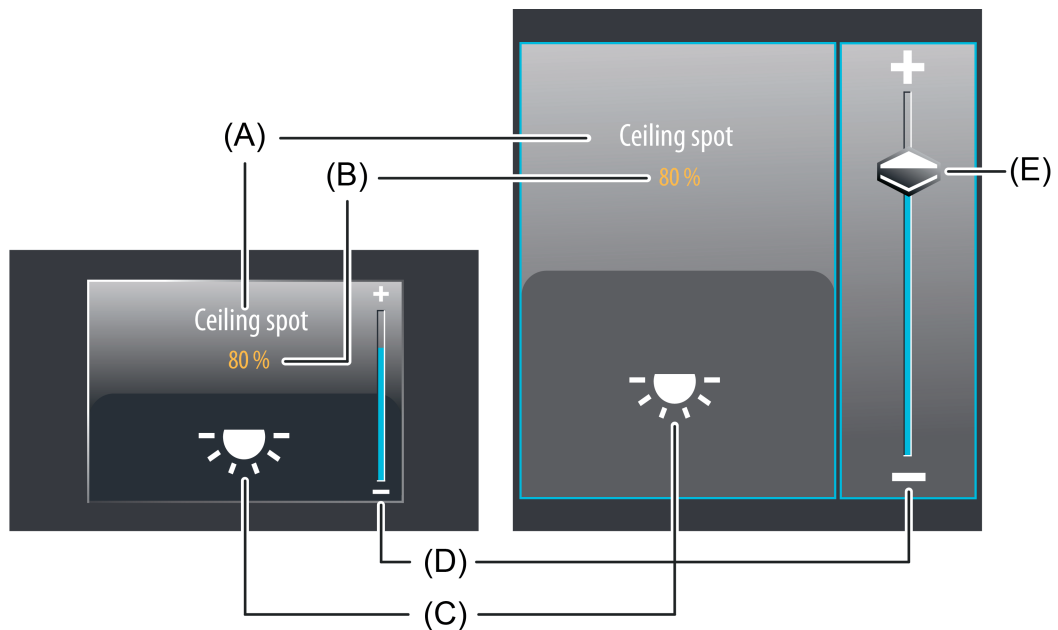

Figure 25: Example of an operating and display element of the function "Dimming brightness value"
In the selection operation, a slider (E) is available in addition to the sensor surfaces + or - for operating switching or continuous dimming processes (figure 25). It is possible to specify brightness values directly with graphic support using the slider. For this purpose, the slider can be set by finger pressure or continuously moved. To set the slider, you must touch the slider area at the required brightness level with your finger. The slider then jumps immediately to the required position. At the same time, the device transmits the brightness value specified thus as a presetting to the bus.
The display area contains different display elements (figure 25) that are influenced by parameters. A name can be assigned to each KNX function in the configuration software (A). This text name is centred in the display element for display whereby controllable KNX functions are identified for the user (e.g. "ceiling spot"). In addition, a status value (B) can be displayed below the name, which either displays brightness values in plain text ("0...100 %") depending on the object value of the dimming value feedback of the dimming actuator addressed or alternatively directly depending on the preset dimming value of the operating element. After a device reset, the display shows "---%" until a feedback object value of the status text is received or a brightness value is specified.